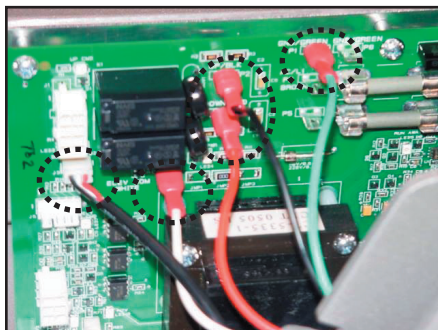
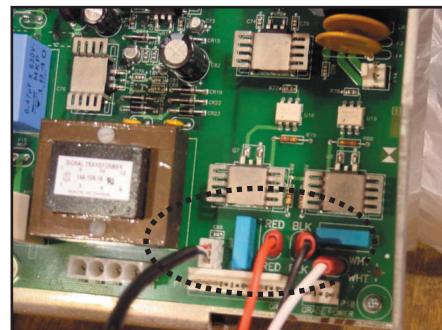

Figure 1: T912 Cables to unplug.
Figure 2: T914/T916 Cables to unplug.
- 2.1 Unplug the Actuator cables from the VSD board. See Figure 1 for T912 and Figure 2 for T914/916.
- 3.1 Plug the Actuator cables to the VSD board and the ground wire to the frame. (On models T914/916 connect the ground wire only). See Figure 1 for T912, and Figure 2 for T914/T916.